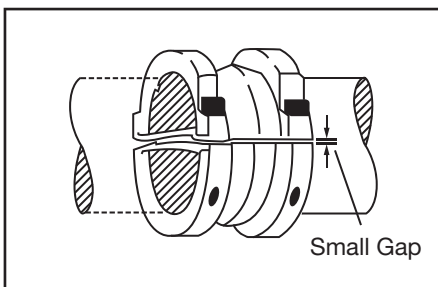

Figure 2
8. **Assemble inner ring halves onto shaft.** Position the inner ring half with the threaded holes on the underside of the shaft. Prop it up against the shaft by hand (small bearings), by wooden wedges, or by nylon sling (large bearings). Position upper inner ring half so that both halves show the etched number on the same side. Apply light coating of Loc-Tite to the shoulder and clamping screws and reinsert into their original positions. Lightly hand tighten both inner ring halves on the shaft using a metric socket screw key provided with the bearings. See Figure 2. Using a rubber or rawhide mallet, tap down the inner ring all around the outside diameter to ensure complete seating of the ring halves on the shaft.
A tight fit of the inner ring on the shaft is necessary for satisfactory operation of bearing. There must be a gap on at least one side of the split joints. The best practice is to have an approximately equal gap on both sides of the split joints. See Figure 2.